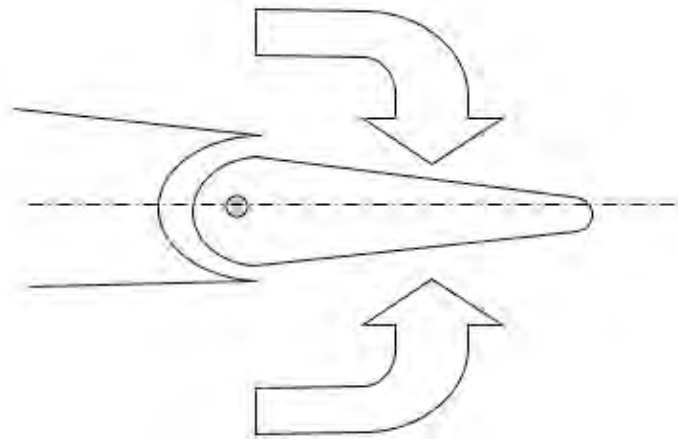

Figure P1.93 A simple model of an airplane control tab
- 1.93** A simple model of a control tab for an airplane is sketched in Figure P1.93. The equation of motion for the tab about the hinge point is written in terms of the angle θ from the centerline to be